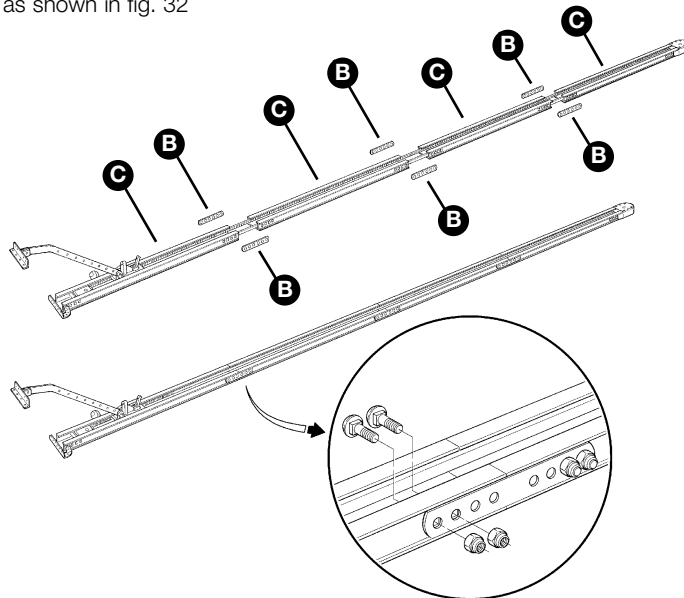

Figure 32
**7** Take the connecting bracket **[B]** from the accessories box, fix the three parts **[C]** together, securely tightening the M6x14 screws and M6 nuts, as shown in fig. 32
**6** Take the connecting bracket **[B]** from the accessories box, fix the four parts **[C]** together, securely tightening the M6x14 screws and M6 nuts, as shown in fig. 32